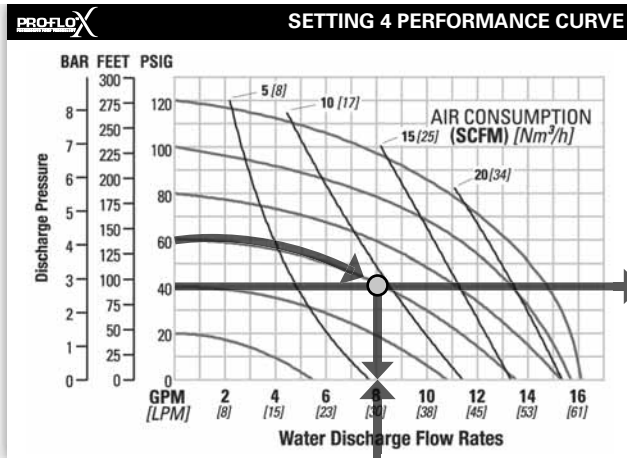

Figure 1
FIGURE 1 The air valve directs pressurized air to the back side of diaphragm A. The compressed air is applied directly to the liquid column separated by elastomeric diaphragms. The diaphragm acts as a separation membrane between the compressed air and liquid, balancing the load and removing mechanical stress from the diaphragm. The compressed air moves the diaphragm away from the center of the pump. The opposite diaphragm is pulled in by the shaft connected to the pressurized diaphragm. Diaphragm B is on its suction stroke; air behind the diaphragm has been forced out to atmosphere through the exhaust port of the pump. The movement of diaphragm B toward the center of the pump creates a vacuum within chamber B. Atmospheric pressure forces fluid into the inlet manifold forcing the inlet check valve off its seat. Liquid is free to move past the inlet check valve and fill the liquid chamber (see shaded area).
Step 1: Identifying performance at setting 4. Locate the curve that represents the flow rate of the pump with 4.1 bar (60 psig) air inlet pressure. Mark the point where this curve crosses the horizontal line representing 2.8 bar (40 psig) discharge pressure. (Figure 1). After locating your performance point on the flow curve, draw a vertical line downward until reaching the bottom scale on the chart. Identify the flow rate (in this case, 8.2 gpm). Observe location of performance point relative to air consumption curves and approximate air consumption value (in this case, 9.8 scfm).